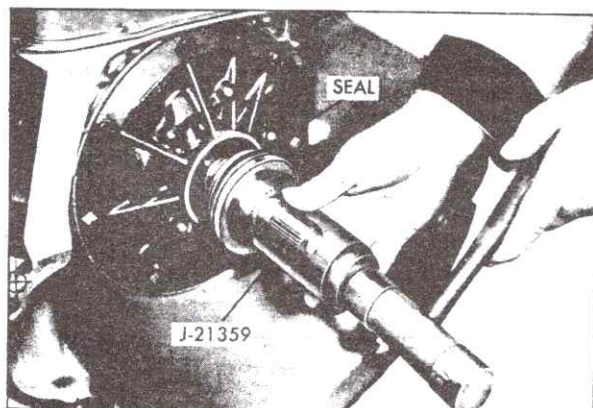

Fig. 7-30 Installing Pump Oil Seal
4. Install new seal in pump body using Pump Oil Seal Installer, J-21359, Fig. 7-30.